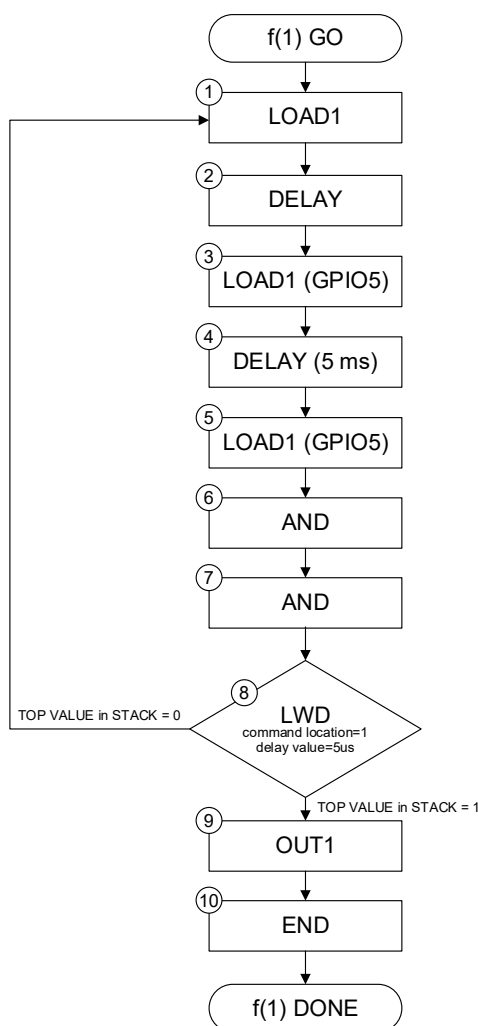

Figure 121. f(1) Flowchart for Rising Edge Deglitch
Figure 121 shows the f(1) rising edge deglitch based on three samples application.